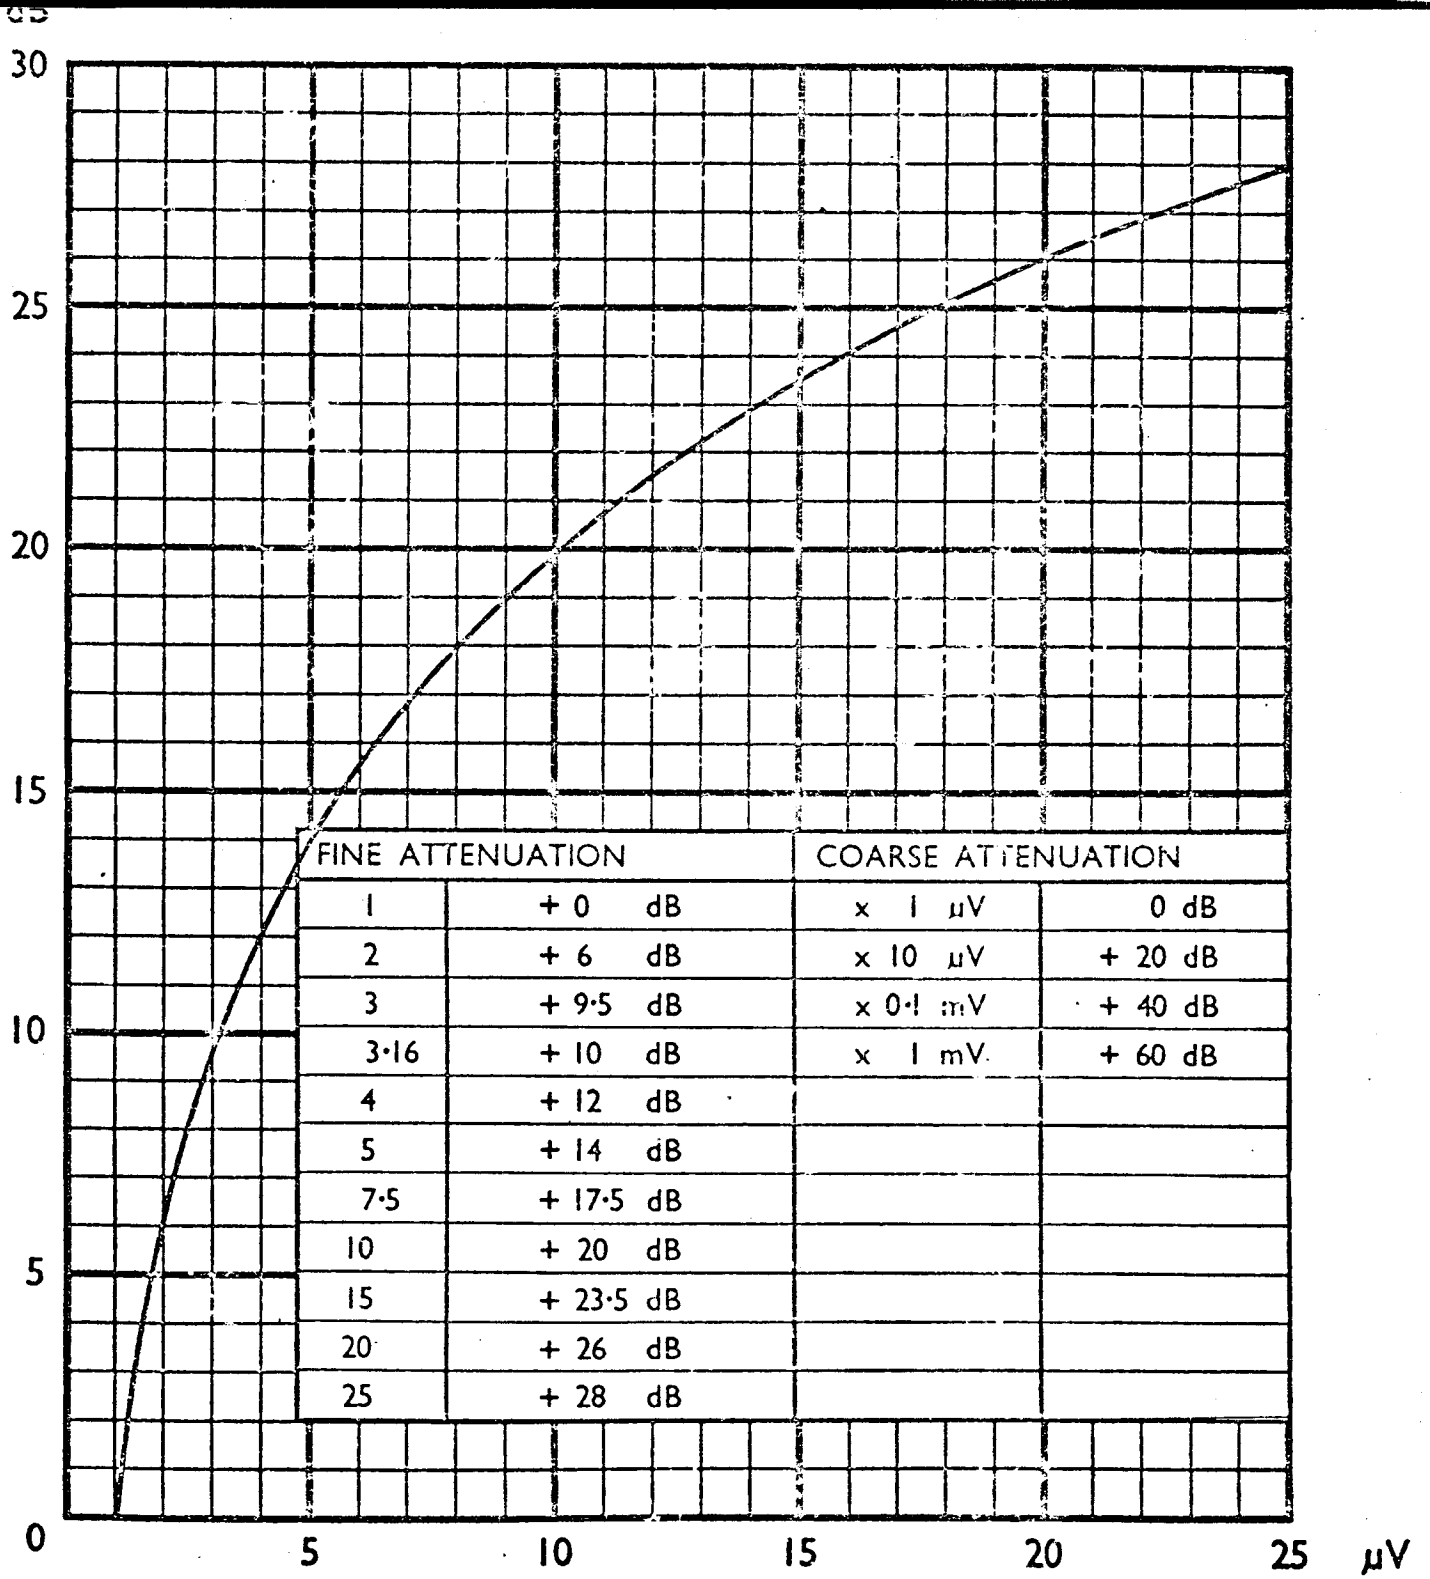

Fig. 2.1.1. ATTENUATOR CONVERSION CHARTS
ATTENUATOR CONVERSION CHARTS.....	Figure 2.1.1.
12. If it is desired to set up or read off a signal in decibels with a reference level of one microvolt across 75 ohms (-or 50 ohms see below), either set up or read off the ATTENUATOR FINE and COARSE dials as in Fig. 2.1.1. which gives a graphical conversion for the 1-25 scale of the FINE control and a tabulated scale for the COARSE, together with notes on the loss of various ATTENUATORS, FIXED, etc. It must be noted that when using a 75 ohm system the decibel reference point:- $0 \text{ dB} \equiv 1 \mu\text{V}$ across 75 ohms is applicable but when 5905-99-972-6357 ATTENUATOR, FIXED is in circuit the reference level must be changed to $0 \text{ dB} \equiv 1 \mu\text{V}$ across 50 ohms. To allow for the loss that 5905-99-972-6357 ATTENUATOR, FIXED produces calculate the dB level from the settings of the FINE and COARSE dials and subtract 6 dB.